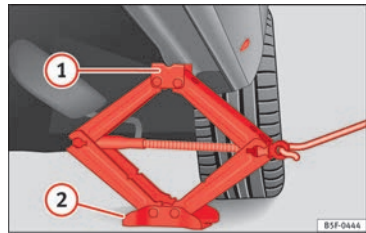

Fig. 74 Strut: mounting the jack on the vehicle.
• Turn the jack*, located below the strut support point, to raise it until tab ① » **Fig. 74** is below the housing provided.
• Align the jack* so that tab ① “grips” onto the housing provided on the strut and the mobile base ② is resting on the ground. The base plate ② should fall vertically with respect to the support point ①.